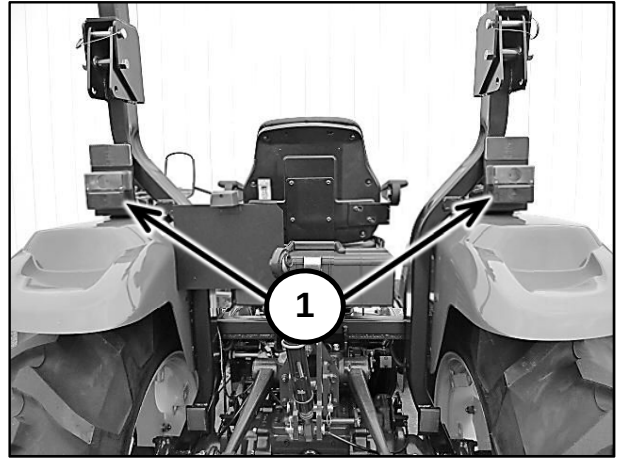

Figure 2-20
The brake lights (1) in Figure 2-20, are activated when the brake pedals are depressed, with the key switch in any position. The brake lights illuminating, warns anyone following the tractor, the brakes are being applied and the tractor ground speed is being reduced.